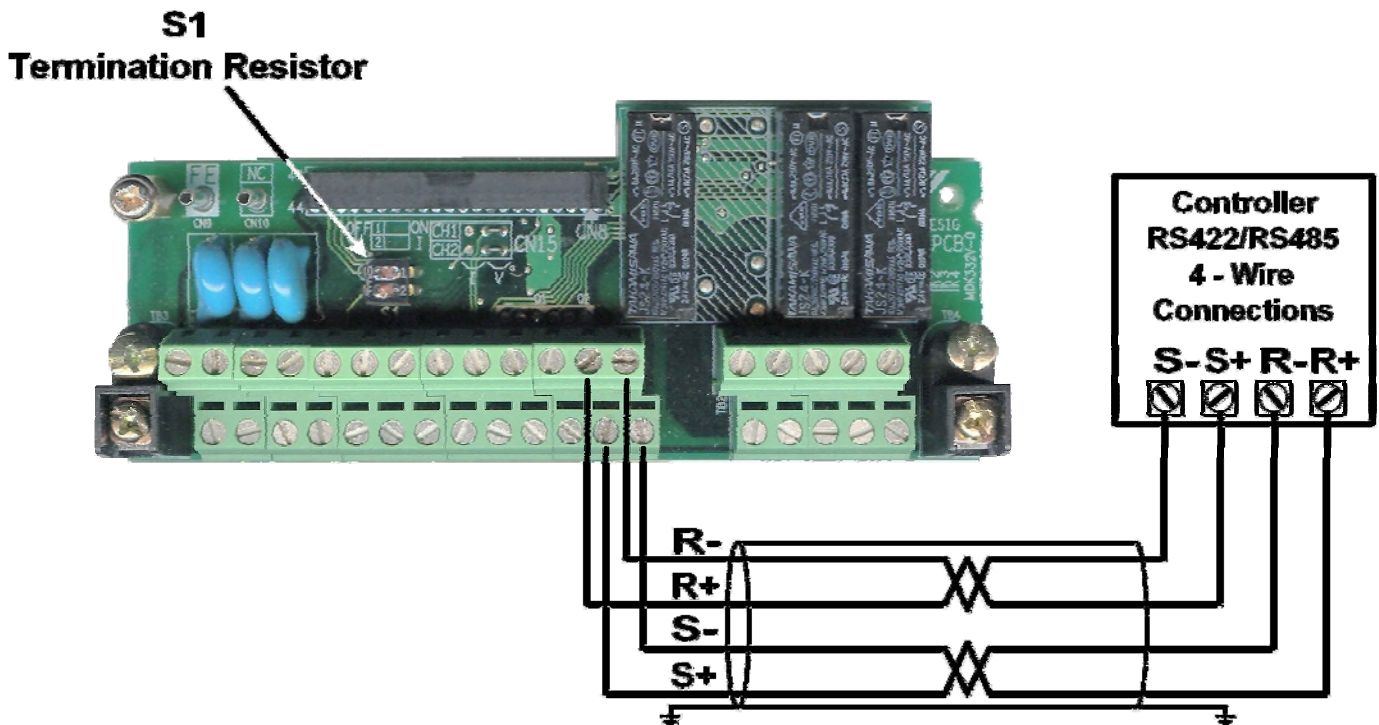

Figure 1.3 – RS422/RS485 4-Wire Network Connection
- 5.2:** Connect the controller to the S+/S- and R+/R- terminals on the E7 drive's terminal block as shown in *Figure 1.3 – RS422/485 Connections*.